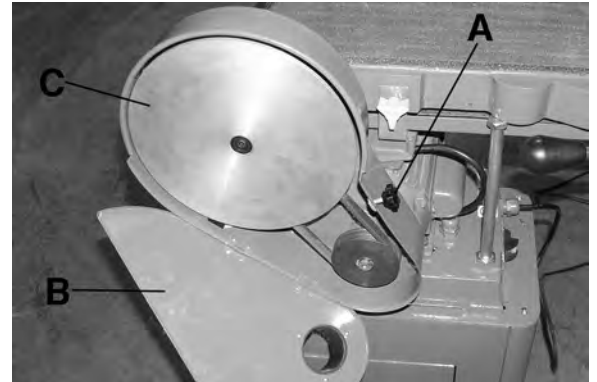
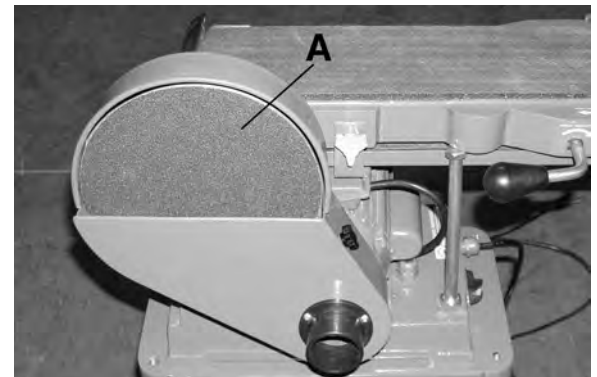

Figure 9
Figure 10
1. Undo and remove the sanding disc cover lock knob (A) Fig.9 and open the sanding disc cover (B).
2. Before installing any sanding disc, the disc (C) must be clean and free of any debris or else you may experience unsatisfactory sanding results or disc may lose contact with the plate and be projected into the air.
3. Peel the paper backing from the sanding disc, carefully position and press the sanding disc (A) Fig.10 firmly to the disc.
4. Close the sanding disc cover and lock it in place using the same lock knob. See Fig.10.